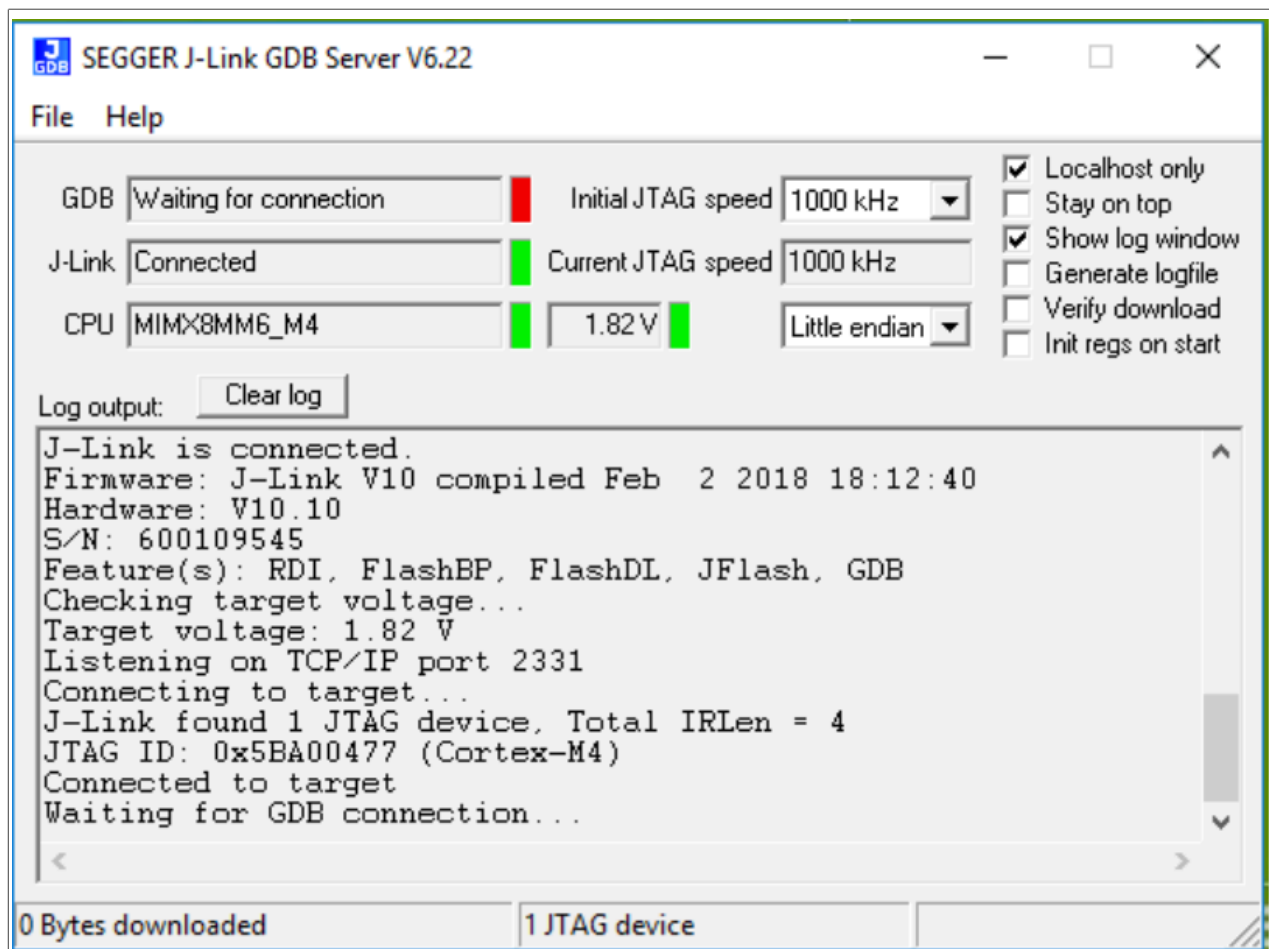

Figure 15. SEGGER J-Link GDB server screen after successful connection
3. After GDB server is running, the screen should resemble Figure 15: